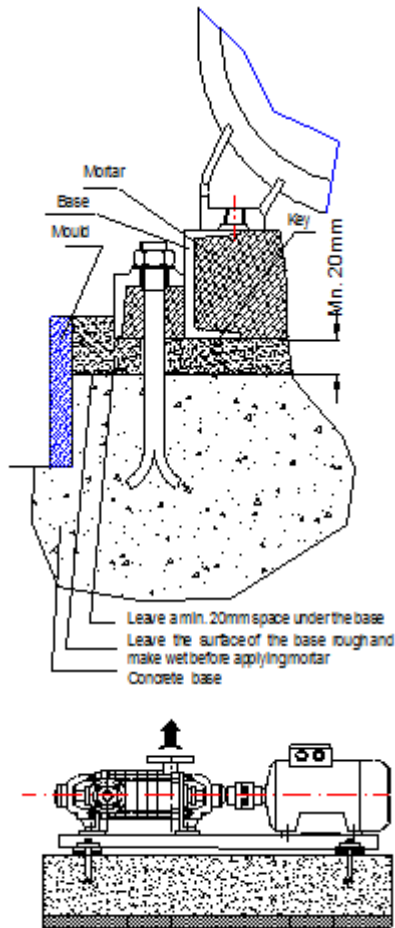

Figure 2: A typical concrete foundation
- Install the pump on the concrete base as illustrated in Figure 2.